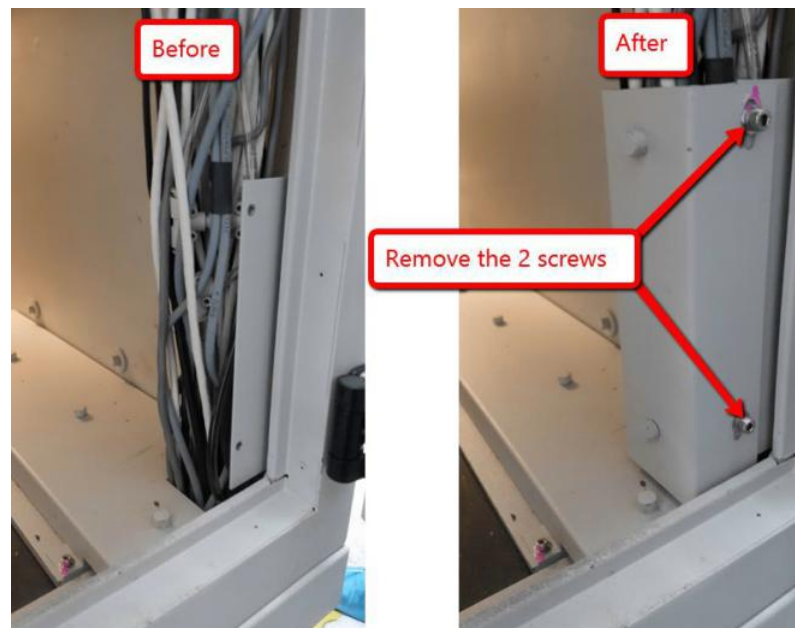

Figure 24 Lead Cover
18. Open the 2 screws and remove the lead cover as shown in the Figure 24.